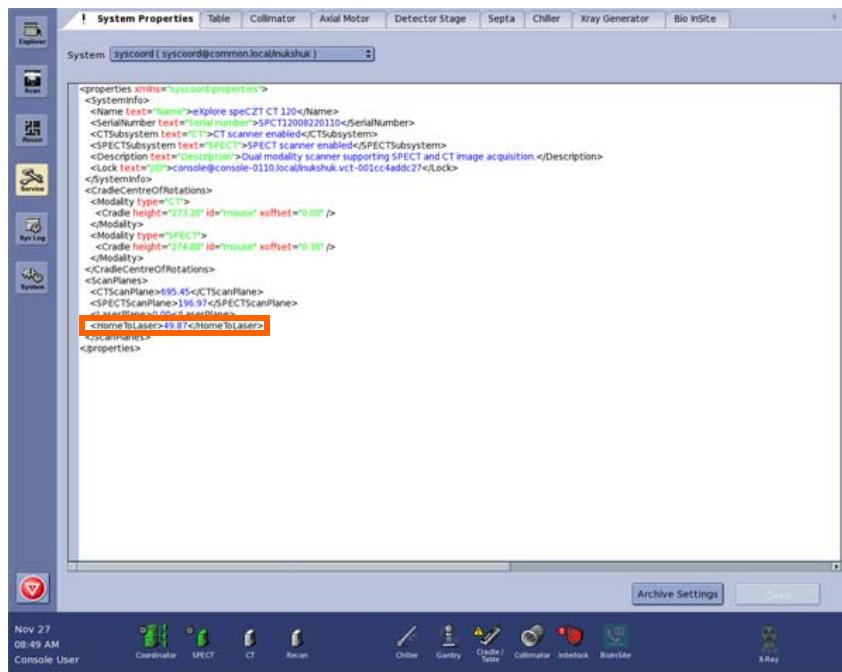

Figure 7-90
- a. Go to the Service pages, System Properties tab, and select syscoord (Figure 7-90).
- b. Write down the value following the <Home To Laser> tag (box in Figure 7-90).